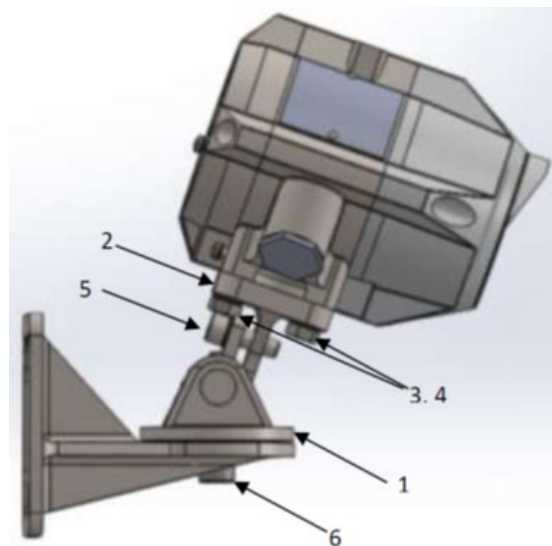

Figure 13 : Detector on Tilt mount – Side view
Use the following steps to connect the detector to the tilt mount, referring to Figure 13:
- Place the detector, with its cable/conduit entries pointing down, on the holding plate of the tilt mount (item 2, Figure 13).
- Secure the detector to the plate using the two hex screws and spring lock washers (items 3 and 4).
- Loosen the locking screws (Items 5 and 6, Figure 13) in such a way that enables you to rotate the detector.